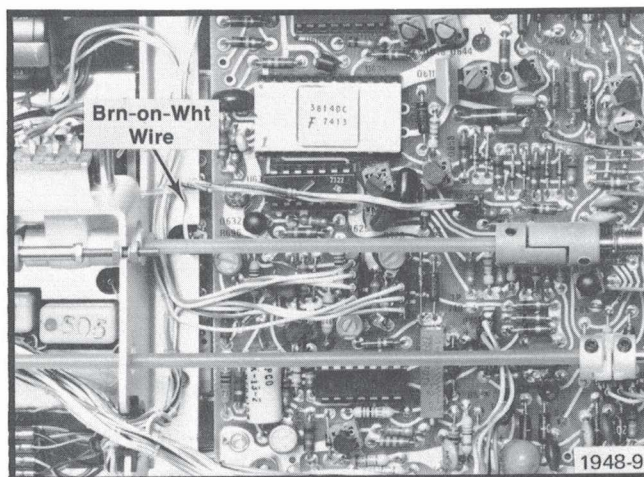

Fig. 5-5. Partial view of Output board showing the V_c input wire and the V_c output pin connector location.
- c. Disconnect the 7A13 brown-on-white wire located on the Output board (see Fig. 5-5). This wire disconnects the V_c supply located on the Output board from the V_c input circuit on the Attenuator board but does not disconnect the V_c supply from the V_c OUT 0-10 V jack.